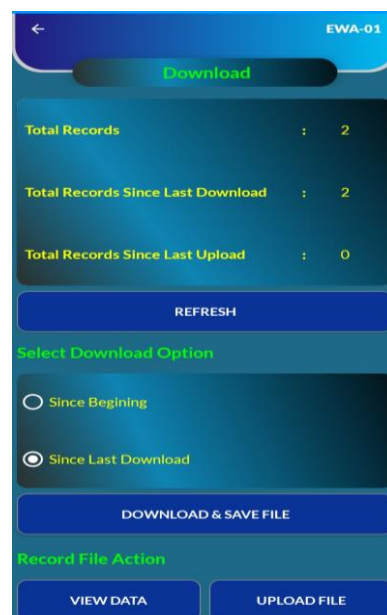

Figure 6-13
- Press “Download Data” button from “Config Node” screen (figure 6-7 (a)). A window as shown in figure 6-13 will appear. Two options are provided to download the data: